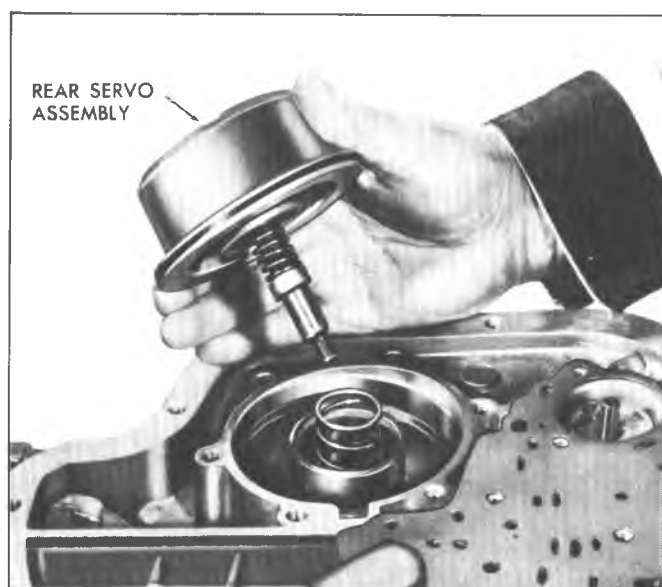

Fig. 148T--Installing Rear Servo Assembly
3. Lubricate and install rear servo assembly into case (fig. 148T).